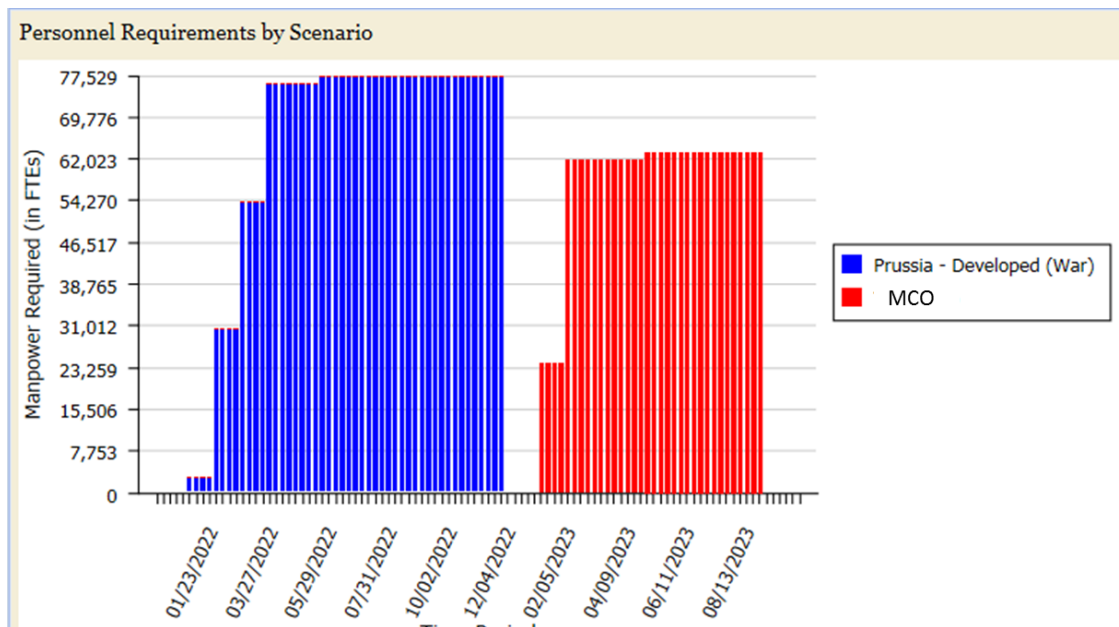

Figure 7. Personnel Requirements by Scenario for uncertainty analysis.
e. Check that the graph looks like Figure 7: